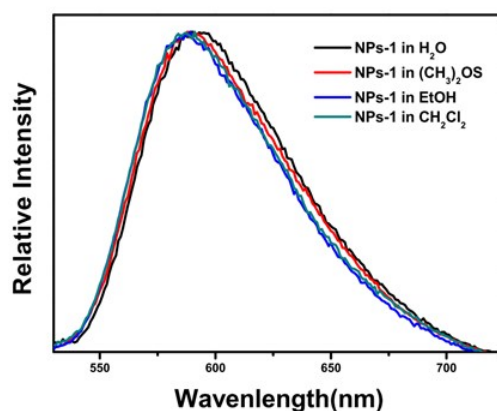

Figure S7. The emission spectrum of nanoparticles dispersed in different solvents.
11. Figure S7 shows the emission spectrum of nanoparticles dispersed in different solvents